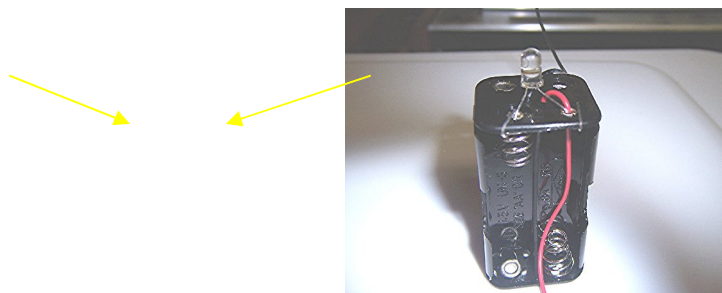

Fig. 2.
Key to the operation of both mixers is the use of a ping-pong ball as a screen. In the case of the tri-color mixer, the LED's lens projects colored circles of light on the top of the ping-pong ball. When these colored circles overlap, one is reminded of the familiar color mixing diagrams found in most physics texts. Because the interior surface of the ping-pong ball scatters light with equal intensity in all directions, the additive combination of the projected colors is seen at all viewing angles. (Fig. 2).
Fig. 2. The ping-pong ball displays the additive combination of the primary colors as well as the primary colors themselves. Here red, blue and green combine to produce white.
1. Cut off the black lead as close to the holder's surface as possible. Run the red lead through the hole shown on the right in Figure 2. (Note: Since the LED operates on 3.5 v, a jumper wire is used in lieu of the fourth battery.) The polarity of both the red lead and the hole is positive. Examine the LED. Note that one lead is slightly longer than the other. The longer lead is the positive side of the LED. Pass the positive LED lead through the hole on the right side of the battery holder and the other LED lead, the negative lead, through the hole on the left hand side of the battery holder. The negative LED lead should pass through one of the top coils of the spring terminal as shown in Figure 2. Bend the ends of both leads up and around the top of the battery holder (see arrows in Fig. 2).